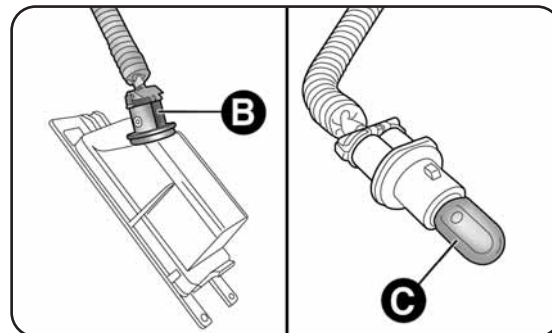

fig. 30
- turn bulb holder B-fig. 30 anticlockwise, remove bulb C and replace it.